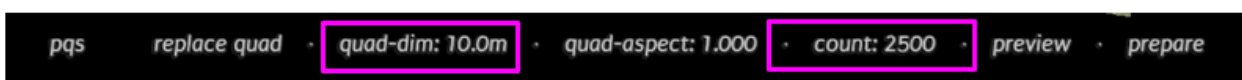

Figure 82. Example of correct settings before preparing a VPI sample.
6. Adjust the settings in the PQs menu to the following (Figure 82).